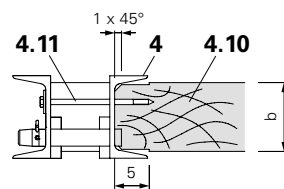

Fig. C1.15
The timber ends (4.10) are to be adapted to the U120 profile of the Strongback (4) through chamfering and notching. For fixing with wood screws 8 x 160 and washers (4.11), use the drilled holes in the web of the Strongback. (Fig. C1.15)